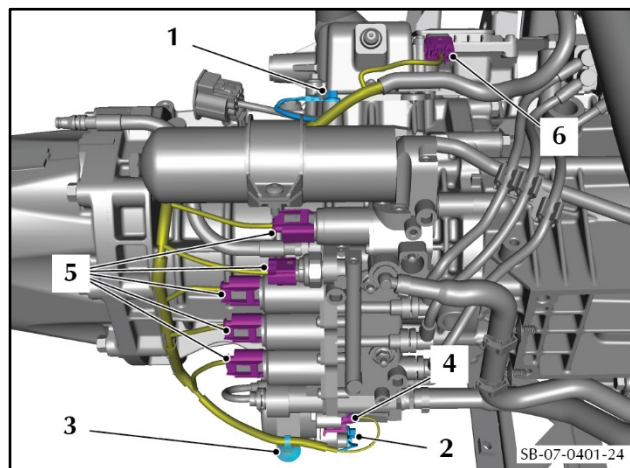

Figure 26
42. Remove the screw that attaches each of the two ground connections (1 and 2) to the transaxle (refer to Figure 26).
43. Release the clip (3) that attaches the electrical harness.
44. Disconnect the electrical connector (4) from the ASM pump.
45. Disconnect the five electrical connectors (5) from the valve block.
46. Disconnect the electrical connector (6) from the control module.